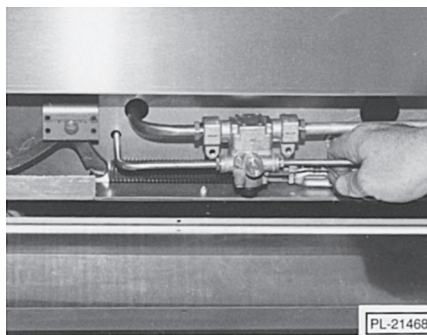

Fig. 38
2. Disconnect thermocouple from safety valve (Fig. 38).
5. Remove thermocouple lead from safety valve (see Fig. 38).